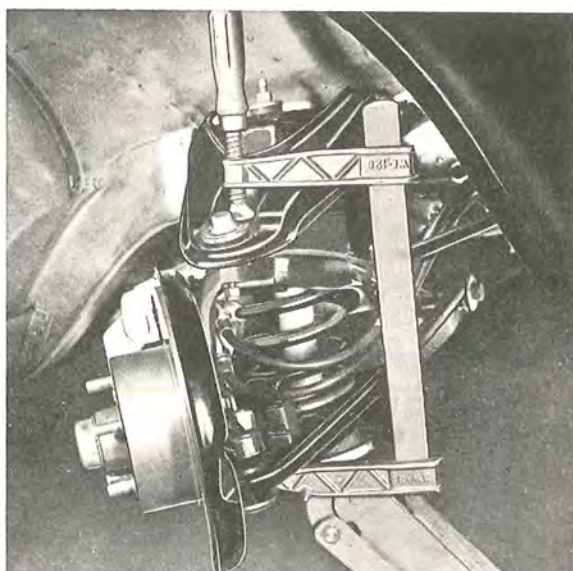

Fig. 6-24. Upper ball joint securely held by vice
2. Place the stub axle in position and tighten the ball joint nuts. If the ball joint twists, hold it firmly in position with a screw vice, see Fig. 6-24. Fit the steering rod on to the steering arm.
2. Press the ball joint into the wishbone with press tool SVO 2699, sleeve 2701 and drift 2704, see Fig. 6-23. Make sure that the slot in the ball joint coincides with the longitudinal shaft of the wishbone either externally or internally (Fig. 6-22) as the pin has maximum movement in the direction of this line. Should the ball joint be incorrectly fitted when being pressed in, turn the tool SVO 2699 half a turn and then press the ball joint into the correct position. The ball joint must not be loose in the wishbone. Turn down the wishbone and tighten the nuts for the wishbone shaft. Tighten the ball joint against the steering knuckle. If the pin rotates, hold it firmly with a screw vice, see Fig. 6-24.
the upper and lower ball joints. If the pins rotate, fix them securely with a screw vice, see Fig. 6-24.
2. Fit the spring. Raise the jack and fit the steering knuckle. Tighten the nuts for the ball joints. If the pins rotate, hold them securely with a vice, see Fig. 6-24.